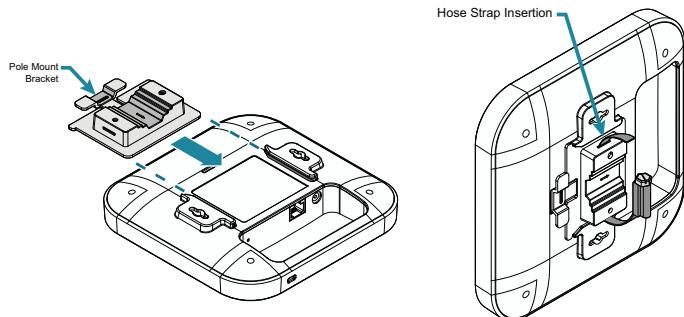

Figure 8. Attach the Pole Mounting Bracket and Straps for Horizontal Mounting
- Once the pole mounting bracket is attached to the BSAP, thread the hose strap through the two slots on the pole mount bracket as shown in Figure 8.
- Rotate the BSAP 90 degrees so that pole mount bracket and hose straps are aligned vertically (as shown in Figure 8).